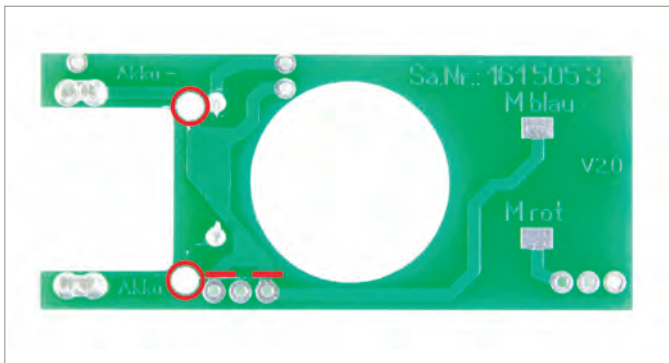

Abb. 30: Cut the circuit traces on the universal board; batteries are connected
- ▶ Using a craft knife, cut through two of the traces on the top side of the universal circuit board as shown Abb. 30.
- ▶ Drill through the circuit traces on the underside of the universal board using a drill bit or end mill as appropriate Abb. 30.